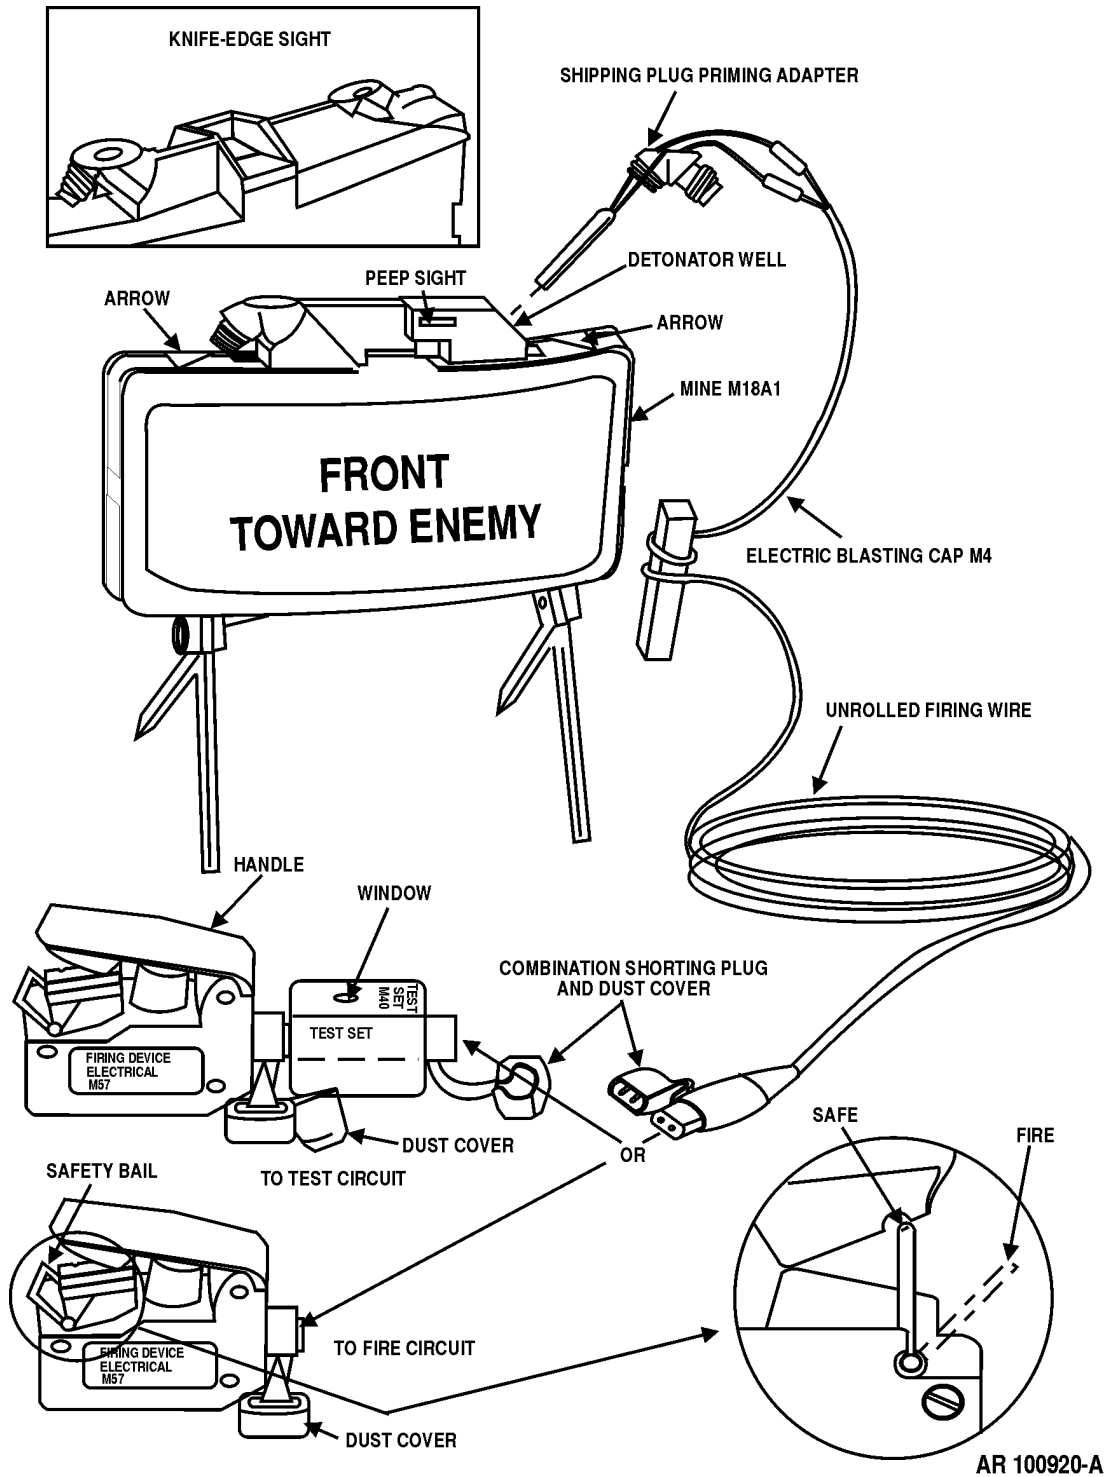

Figure 2-8. Mine, antipersonnel: M18A1, electric initiation system with accessories.
**2-3. Mine, Antipersonnel: M18A1, with Electric Initiation System (Fig. 2-8)**
- (1) Unscrew either right or left shipping plug priming adapter, and reverse it to allow firing wire to be placed into slot provided in primary adapter portion (fig. 2-8).
- (7) Remove dust cover from connector on firing device; also remove combination shorting plug and dust cover from end of firing wire. Plug into the two connectors to connect firing wire to firing device.
**BEFORE CONNECTING BLASTING CAP TO FIRING DEVICE (FIG. 2-8), SAFETY BAIL MUST BE IN "SAFE" POSITION AND ALL PERSONNEL WHO ARE WITHIN 250 METERS OF FRONT AND SIDES OF MINE AND 100 METERS OF REAR OF MINE MUST BE UNDER COVER.**
- (8) To fire mine, position firing device bail in "fire" position.
- (9) Fire by actuating firing device handle with a firm, quick squeeze, then release.
- (10) The detailed circuit testing procedure is as follows: Test M57 Firing Device and M4 Blasting Cap Assembly before inserting M6 cap into mine detonator well. If an extended period of time elapses between circuit test and insertion of blasting cap
- One M40 test set is provided with each case of six M18A1's. The test set (fig. 2-8) is an instrument used for checking continuity of electrical firing circuit, including M57 firing device. A shipping tag on carrying strap marks bandoleer which contains test set.
- (b) Plug test set into firing device (fig. 2-8). Leave combination shorting plug and dust cover assembled on other end of test set.
**BEFORE CONNECTING BLASTING CAP TO TEST SET AND FIRING DEVICE (FIG. 2-8), SAFETY BAIL MUST BE IN "SAFE" POSITION, AND ALL PERSONNEL WHO ARE WITHIN 250 METERS OF FRONT AND SIDES OF MINE AND 100 METERS OF REAR OF MINE MUST BE UNDER COVER.**